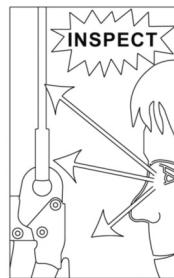

Figure 1
4. Connect to anchorage point: The anchorage device or anchorage point should always be positioned in order to minimize both the potential for falling and potential fall distance. You must choose a rigid anchor point location that will prevent free falls and swing falls hazards. The anchorage device or point must be placed above the position of the user. Make sure the anchor device or structural members both conform to EN795:2012 with a minimum strength of 12KN and the maximum angle from the vertical devicenis less than 40 degree (Figure 1).